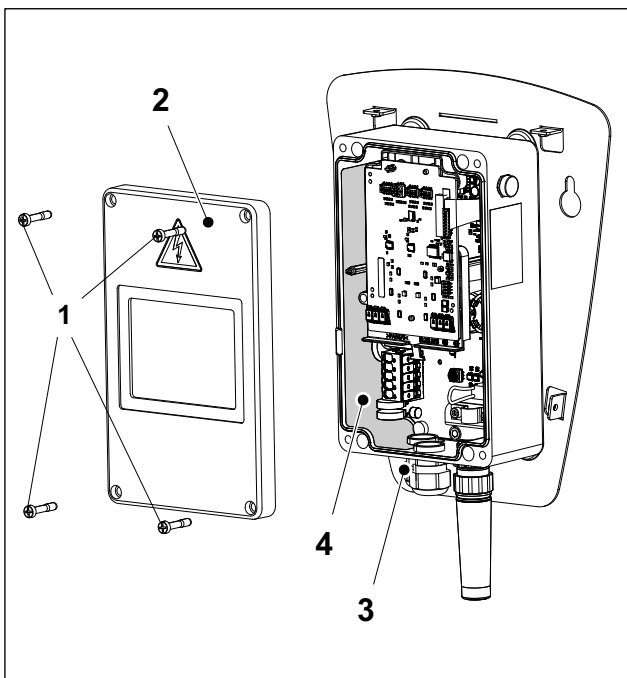

Fig. 4 Wallbox Energy Control, open electronics housing
1. Remove the four screws (Fig. 4/1) and take off the cover of the electronics housing (Fig. 4/2).
2. Screw the cable gland ESKV25 (enclosed accessories) with the respective gasket EADR25 (enclosed accessories) into the electronics housing (Fig. 4/3) and tighten (approx. 8 Nm).
5. Follow the instructions on the sticker (Fig. 4/4) and then pierce the sticker on the cable entry.